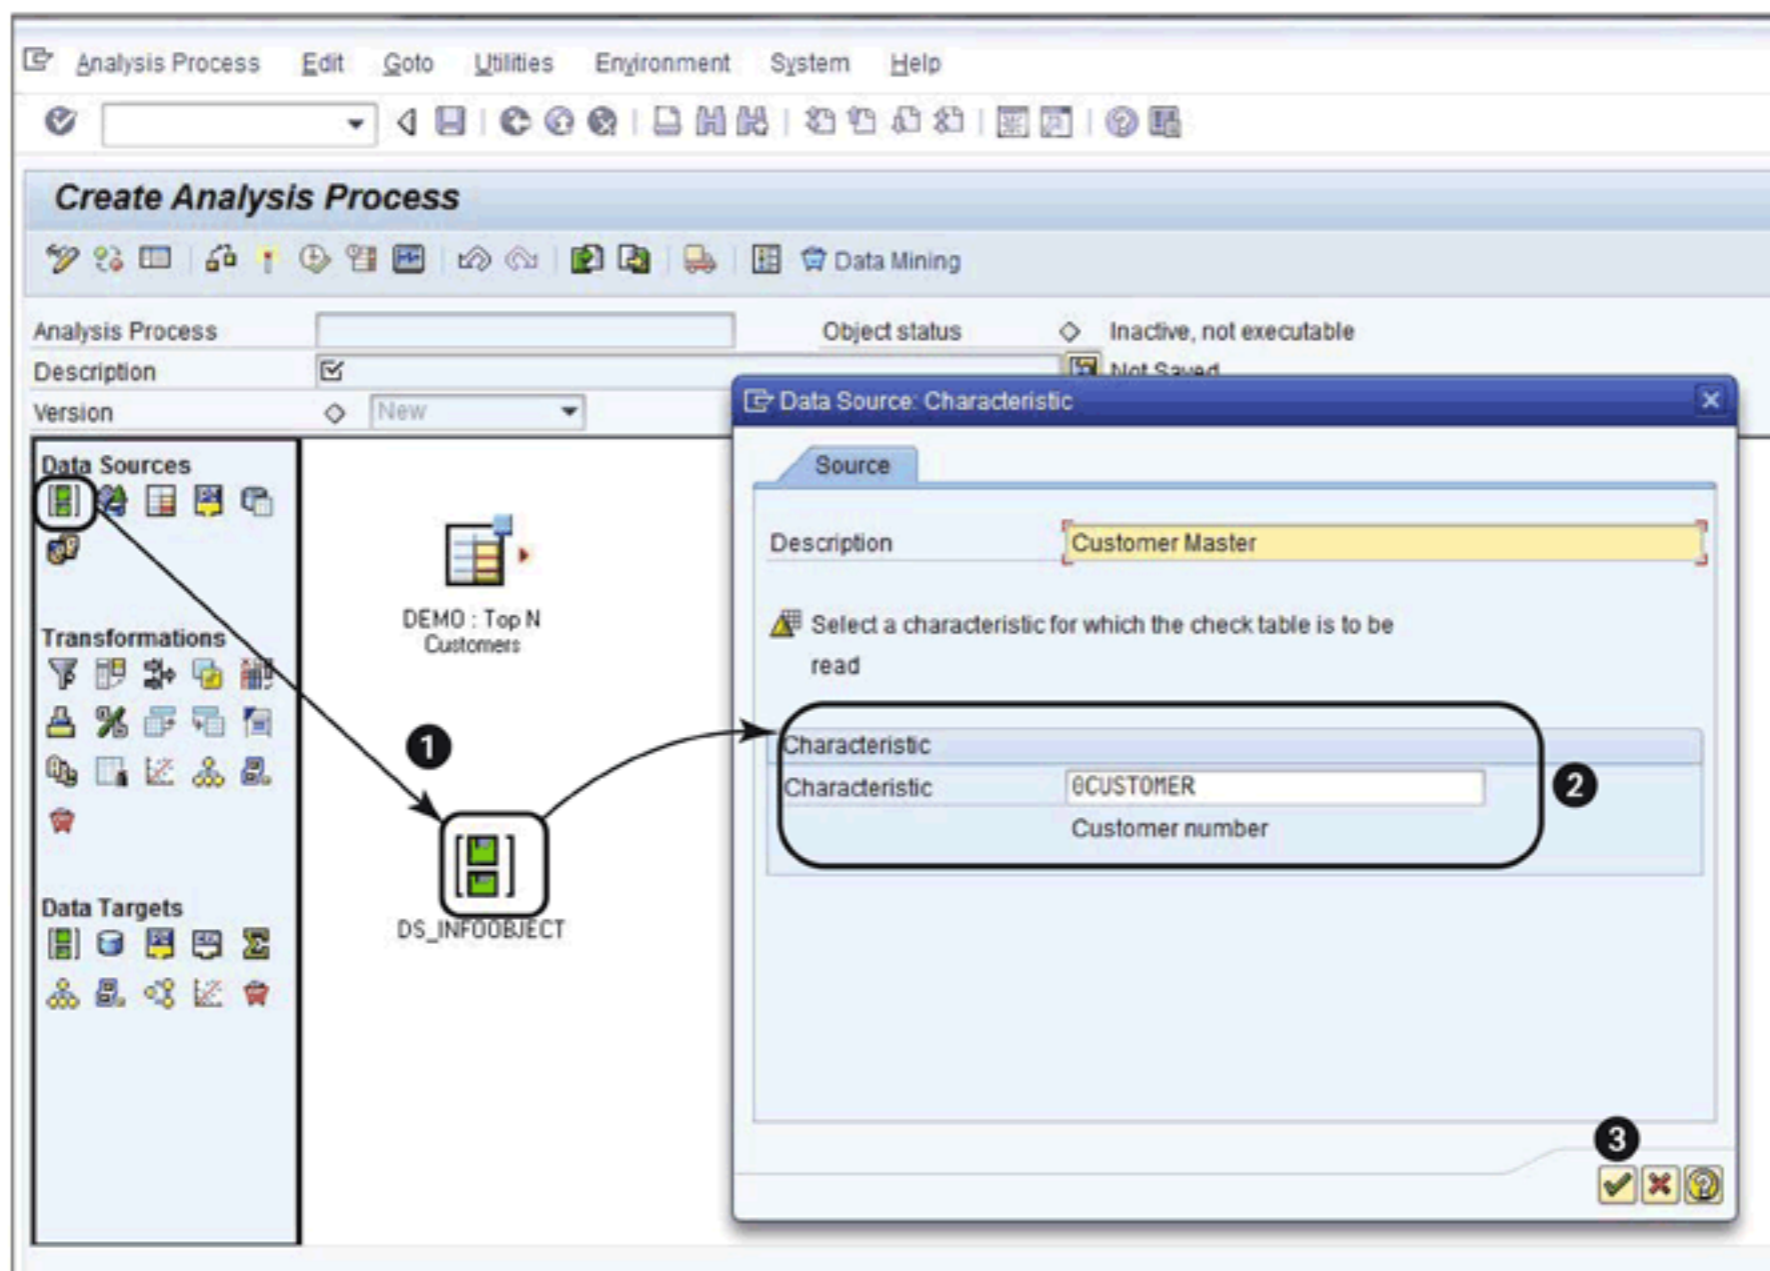

Figure 15.8 Add Data Source: Master Data
Drag another data source, MASTER DATA, to the design area (❶ of Figure 15.8), and assign the master data characteristic that is needed to perform the analysis (❷). Press , or click on the icon shown in ❸ of Figure 15.8 to return to the design screen.